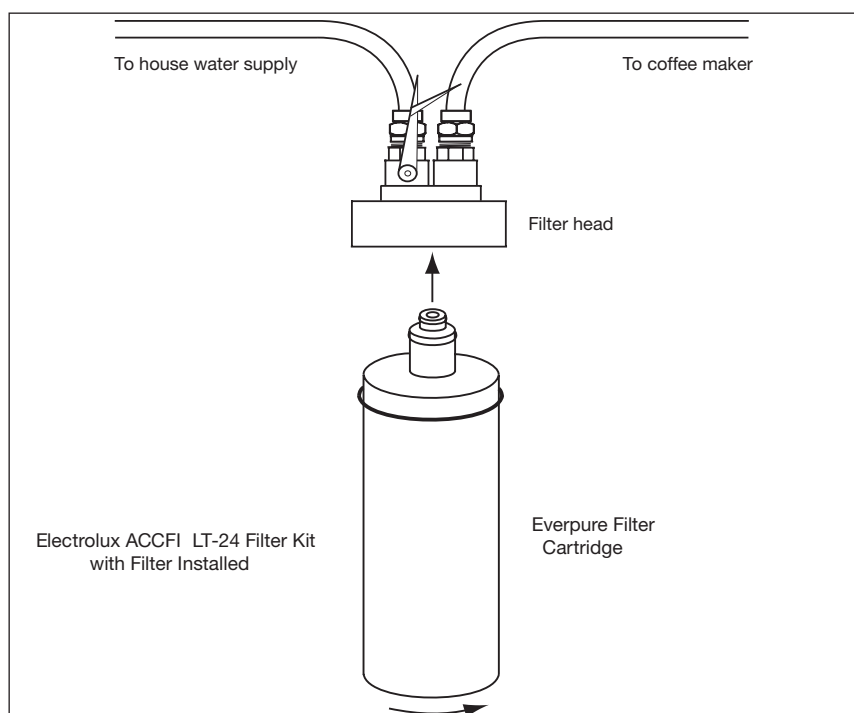

Figure 2-5. Electrolux ACCFILT-24 Filter System
2. Regardless of the type of water treatment system installed, ELECTROLUX HIGHLY RECOMMENDS you install an Electrolux ACCFILT-24 filter system. (See Figure 2-5) The coffee maker requires periodic decalcification that must be performed regardless of the water hardness level. The filter head in the kit is required to perform this process for model E24CM76GSS. Decalcification will be MUCH SIMPLER with the Electrolux ACCFILT-24 filter system already installed. In addition, the filter will improve water taste.